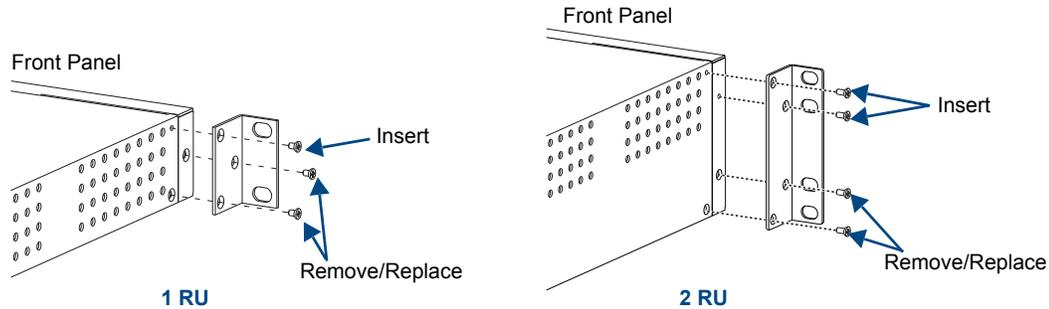

FIG. 5 Attach rack ears to sides of enclosure
1. On the side of the Precis LT, remove the bottom two screws closest to the front panel (FIG. 5). Align the holes on one of the rack ears with the empty holes on the side of the enclosure and replace the screws (three screws for the 1 RU; four screws for the 2 RU). Repeat for the other rack ear.